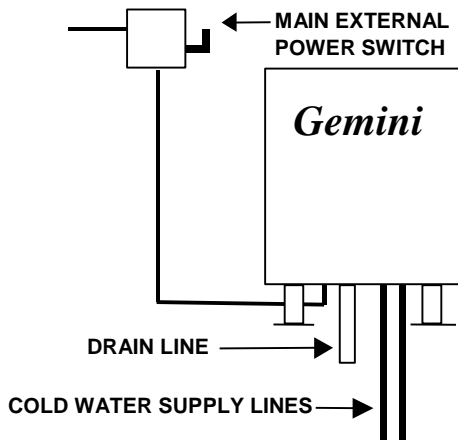

Figure 2-9, Recommended Electrical Layout
- c. A main disconnect switch and a separate fuse or breaker should be installed near the unit as shown in Figure 2-9. See spec sheet for the steamers power requirements. Throughout the remainder of this manual the fused disconnect switch is referred to as the main external power switch.